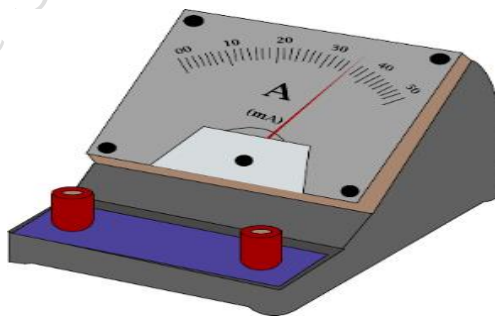

Fig. 3.27 Ammeter
Ammeter – An ammeter is a device used to measure the electrical current flowing in a circuit. It is typically a small, portable instrument that is connected in series with the circuit being measured. The ammeter measures the current in amperes (A), which is a unit of electrical current. It is a test instrument that is connected into a circuit to measure the current of the circuit without interrupting the electrical current. A typical ammeter is shown in Figure 3.27. The ammeters can be analog or digital. Analog ammeters use a pointer on a scale to indicate the current, while digital ammeters display the current as a numeric value on a screen. Some ammeters are designed to measure very small currents, while others can handle very high currents.